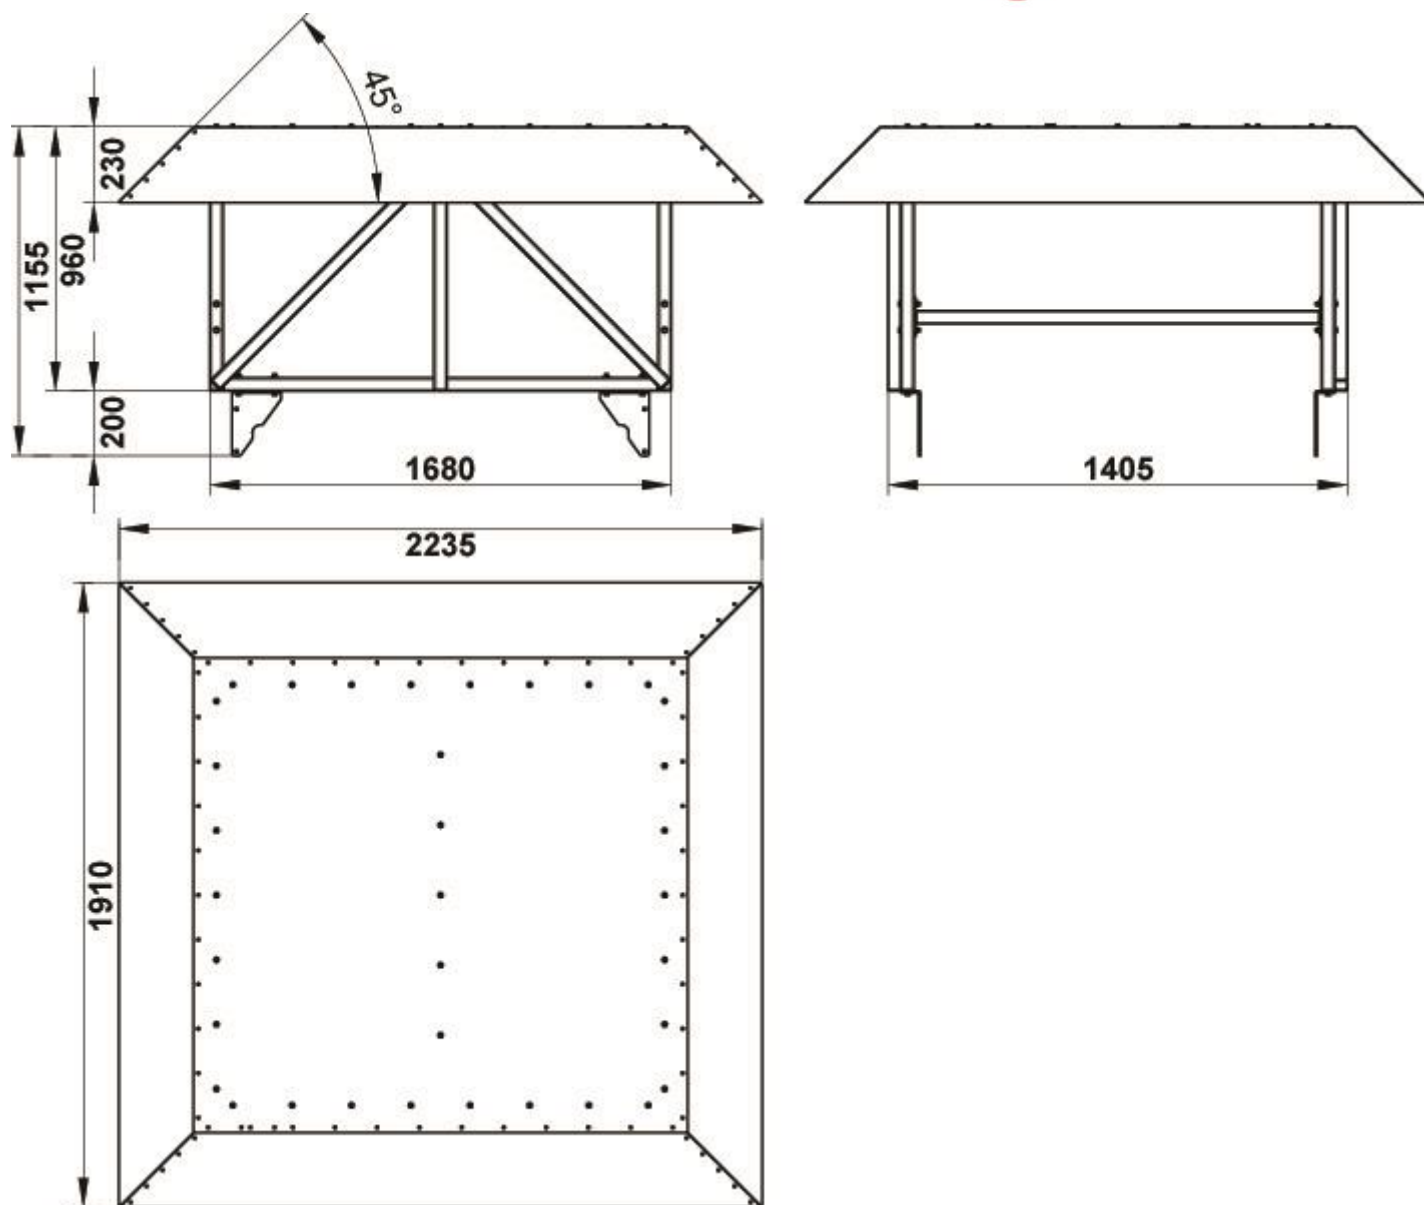

Fig. No.2 – Additional Equipment – Fan cover OW-UFO-A-10000 – to be installed on the device
- As additional equipment, (upon separate order) the device can be equipped with a fan cover, installed on the device (see Fig. No.2).
It is recommended to install the UFO-A filtering unit inside the rooms. In case of outdoor application it is advisable to introduce a fan cover (see Fig. No.2 “Additional Equipment”).